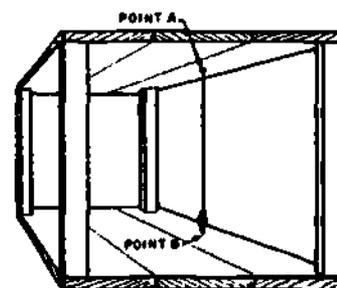

Figure 1-127. Locating a Point Exactly Below a Reference Point
c) To locate a point exactly below a particular point in space, secure the plumb bob cord to the upper point (see A in Figure 1-127). When the plumb bob stops swinging, the point as indicated at A, will be exactly above B.